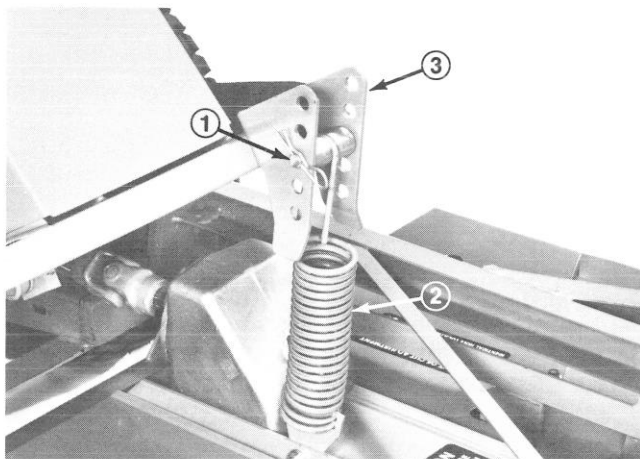

Figure 21
2. Remove clevis pin from bracket to separate spring from bracket (Fig. 21).